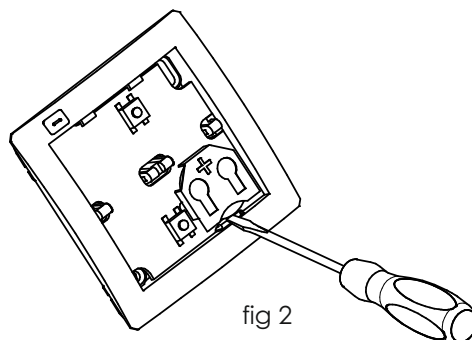

fig 2
2. Use a screwdriver to push up the electronics board while releasing the latch of the battery to allow its removal (fig. 2).